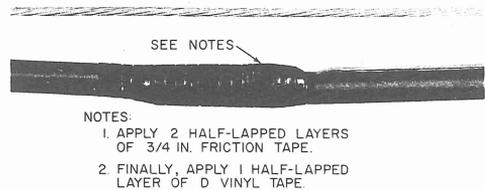

Fig. 49—Completing Cable Portion of Bond
- (j) Apply two half-lapped layers of 3/4-inch friction tape, extending just beyond the edge of the aluminum tape. Cover the friction tape with a single half-lapped layer of D vinyl tape. The last turn should be applied free from all tension so the end of the tape will not ravel (Fig. 49).